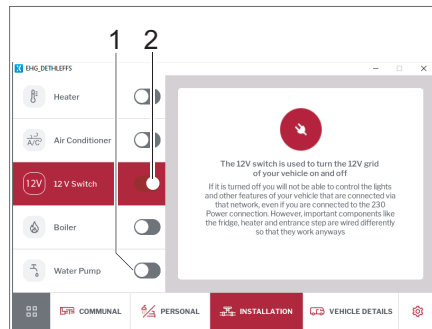

Fig. 288 12 V and water pump
- Use the switch (Fig. 288,2) to switch the vehicle's 12 V supply on and off. A note will appear indicating which consumers are affected by this.
- Use the switch to turn the water pump (Fig. 288,1) on or off. Also see Chapter 9.15.5.